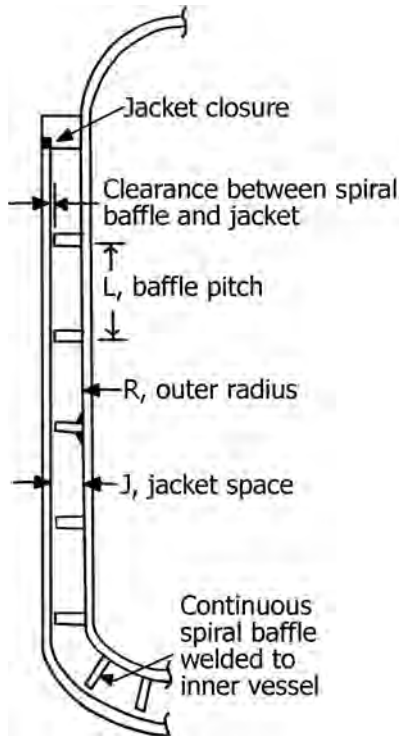

FIGURE 12.15 Conventional jacket with baffles. (Courtesy: Santosh Singh (process.santosh@googlemail.com).)
- > Figure 12.15 illustrates a conventional jacket with baffles.
- Referring to Figure 12.15, the hydraulic radius is calculated as follows: